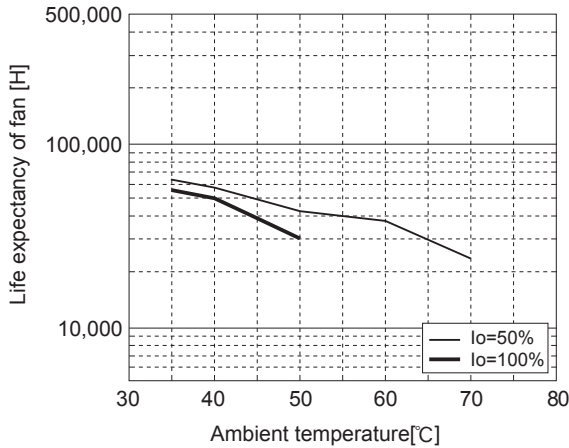

Fig.4.7 Life expectancy of fan
■ Life expectancy ($R(t)=90\%$) of fan depends on use conditions as shown in Fig.4.7.